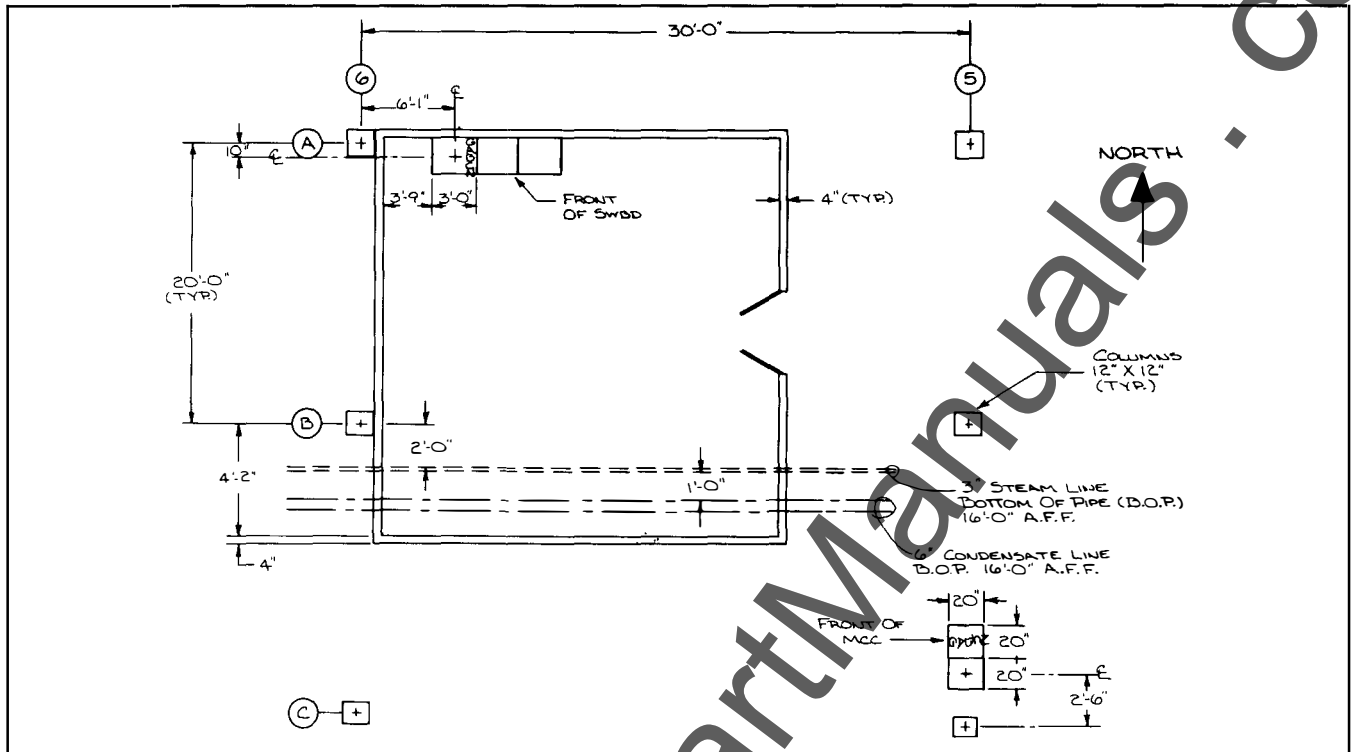

FIGURE 28 Plan View of SWBD, MCC and Obstructions.
* A sketch (Figure 28 Page 23) showing the SWBD and MCC location, the obstructions, and the dimensions to fixed points is very helpful.